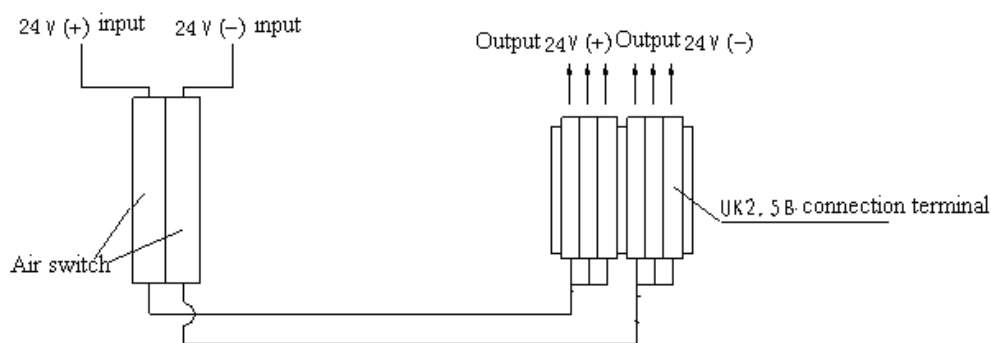

Figure 2-13 Connection map of the power
(3) Connect the power cable's one end to the power distribution board underneath the rear of the cabinet, and the other end to base station power wire posts. Complete the connection for the air switch and the power distribution board as shown in Figure 2-13.